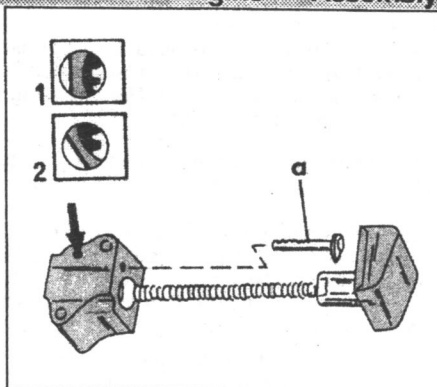

Fig. 1.37. — The Sedis chain tensioner (see text).
This is the chain tensioner shown in Fig. 1.37. Dismantle this type of tensioner as follows:
- Insert a screwdriver into the hole shown in Fig. 1.20 and turn the ratchet inside the tensioner body towards the right, *not to the left, as shown in the illustration*. The location of the hole is also shown in Fig. 1.37 by the arrow